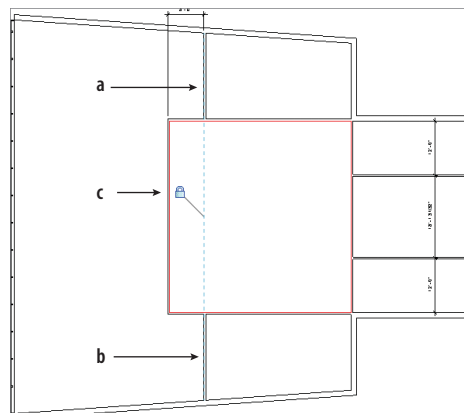

FIGURE 1.30 Use the Align tool to create an alignment and constrain the relationship.
5. As illustrated in Figure 1.30, click the face of the wall that has been constrained in step 3 (a), click the corresponding face of the other new wall (b), and then click the lock to constrain the alignment (c).